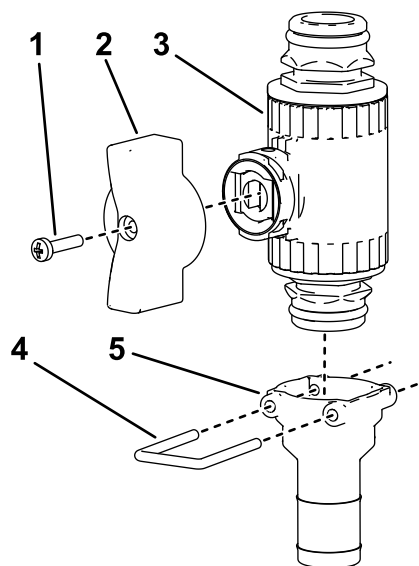

Figure 26
3. Assemble the wing handle and straight fitting to the control valve (Figure 26).
4. Assemble the straight fitting to the control valve using the retainer as shown in Figure 26.